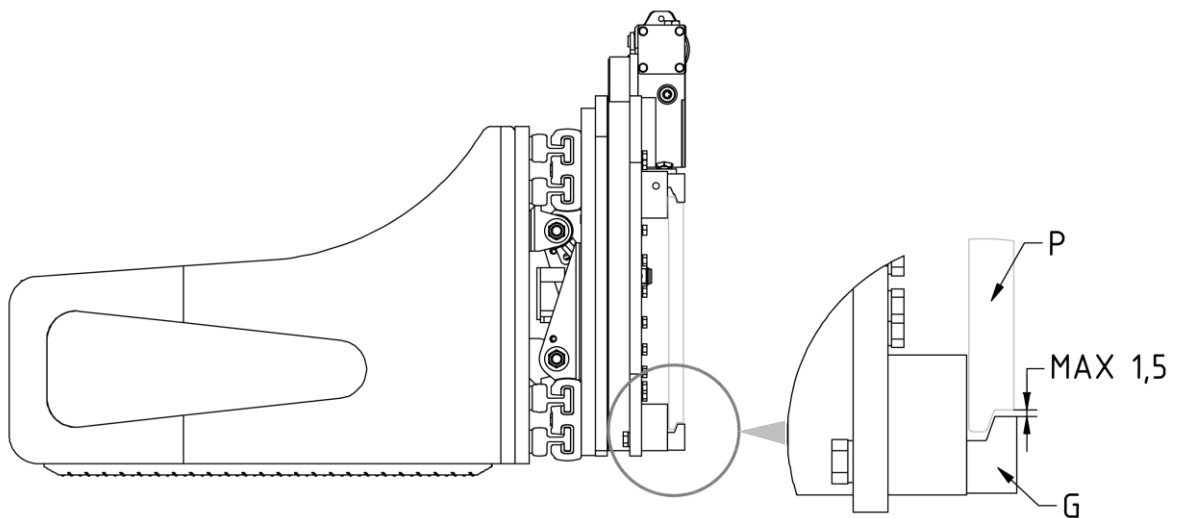

Figure 4
8. Screw on the 2 lower couplings **G** in such a way that their bodies also remains coupled to the lower part of the fork carriage **P** (with max. clearance of 1.5 mm, see detail *Figure 4*), tightening with the torque indicated in *Table 3*.